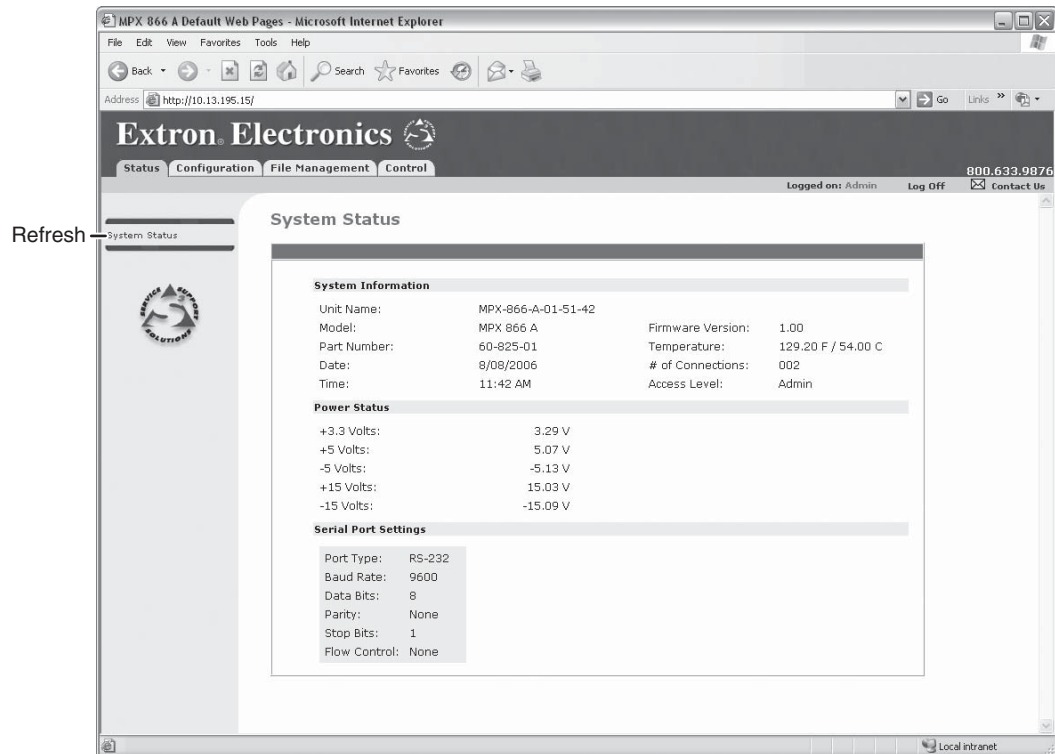

Figure 6-2 — System Status page
- c. **If neither of the above conditions is true**, the switcher downloads the factory-installed default startup page, "nortxe_index.html" (figure 6-2), also known as the System Status page.
The System Status page (figure 6-2) provides an overall view of the status of the matrix switcher, including the power supply status, the individual voltages, the operating temperature, and RS-232 port status. The System Status page is the default page that the switcher downloads when you connect to the switcher. Access the System Status page from other pages by clicking the *Status* tab.